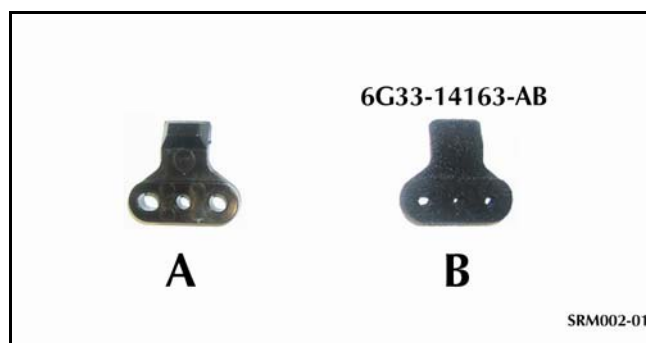

Figure 5
7. Replace the installed locating peg (type "A") with the new flocked peg (type "B") (refer to Figure 5).